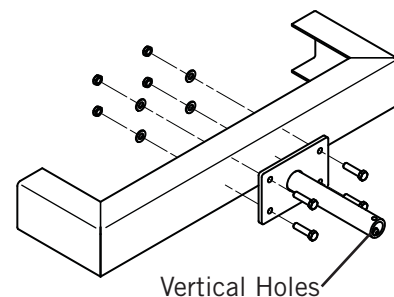
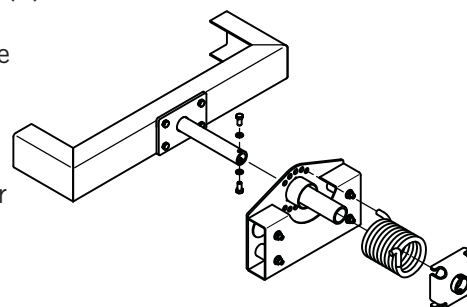

Figure 5
Figure 6
1) See figure 5. Orient the spring mount post (1) to the mounting bracket so the holes in the post are vertical. Mark holes using the spring mount post (1) as a guide.
2) Drill 19/32" diameter clearance holes. Install using 1/2-13 x 2 hex bolts (6), 1/2 flat washers (8), and 1/2-13 nylon hex jam nuts (7) provided.
4) See Figure 6 & 7. Slide the front roller plate assembly (2) onto the spring post bracket (1). Slide the hub spring - Front (White) (3) onto the front roller plate assembly and align spring into the bottom left adjustment hole of the roller plate assembly (2). Slide the spring stop assembly (5) onto the spring mount assembly behind spring and lock the spring turn shaft into bottom right notch of spring stop assembly. Insert the two 1/2-13 x 3/4 hex bolts (10) with 1/2 lock washers (11) through spring stop and into shaft of spring post bracket.
5) See Figure 6 & 7. Slide the rear roller plate assembly (2) onto spring post bracket (1). Slide hub spring - Rear (Black) (4) onto rear roller plate assembly and align spring into the top left adjustment hole of the roller plate assembly (2). Slide the spring stop assembly (5) onto the spring mount assembly behind spring and lock the spring turn shaft into top right notch of spring stop assembly. Insert the two 1/2-13 x 3/4 hex bolts (10) with 1/2 lock washers (11) through spring stop and into shaft of spring post bracket.